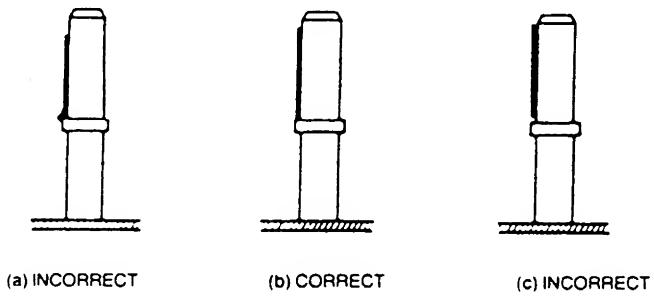

Fig. 4-3
- 4) Slightly turn the ④ screw until the tape edge barely touches the lower part of the TAKE-UP TAPE GUIDE without any curl or wrinkle as shown in Fig.4-3.
- 5) Adjust the head azimuth again. (Turning the hexagon screw or ④ screw will cause head azimuth mis-alignment. Refer to 4-3-1. Azimuth adjustment.)